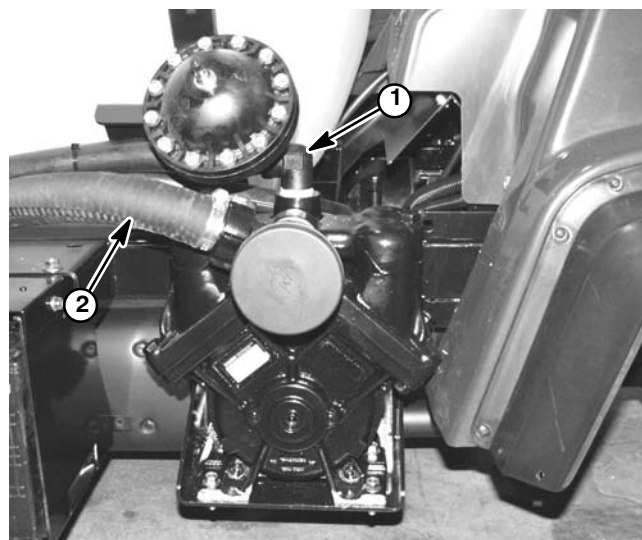

Figure 7
2. Install tee (suction) and suction dampener to pump inlet. Orientate tee toward rear of machine (Fig. 7).
3. Install elbow (pressure), tee (pressure), and pressure dampener to pump outlet. Orientate elbow toward rear of machine (Fig. 7).